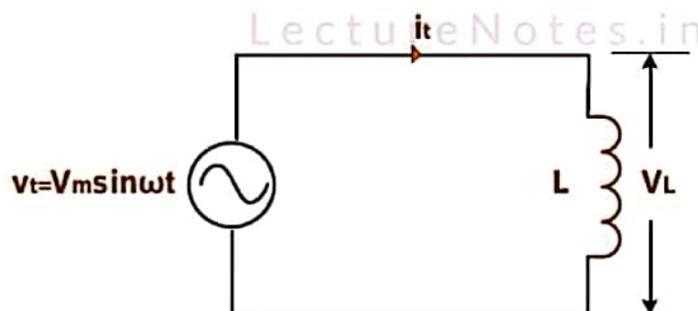

Figure 2.16 Pure Inductor Connected to AC Supply
- The Fig. 2.16 an AC circuit consisting of a pure Inductor to which an alternating voltage $v_t = V_m \sin \omega t$ is applied.
- As shown in Fig. 2.16 voltage source